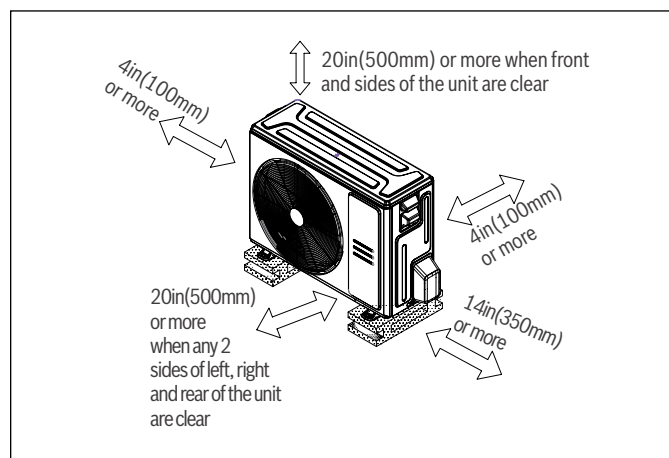
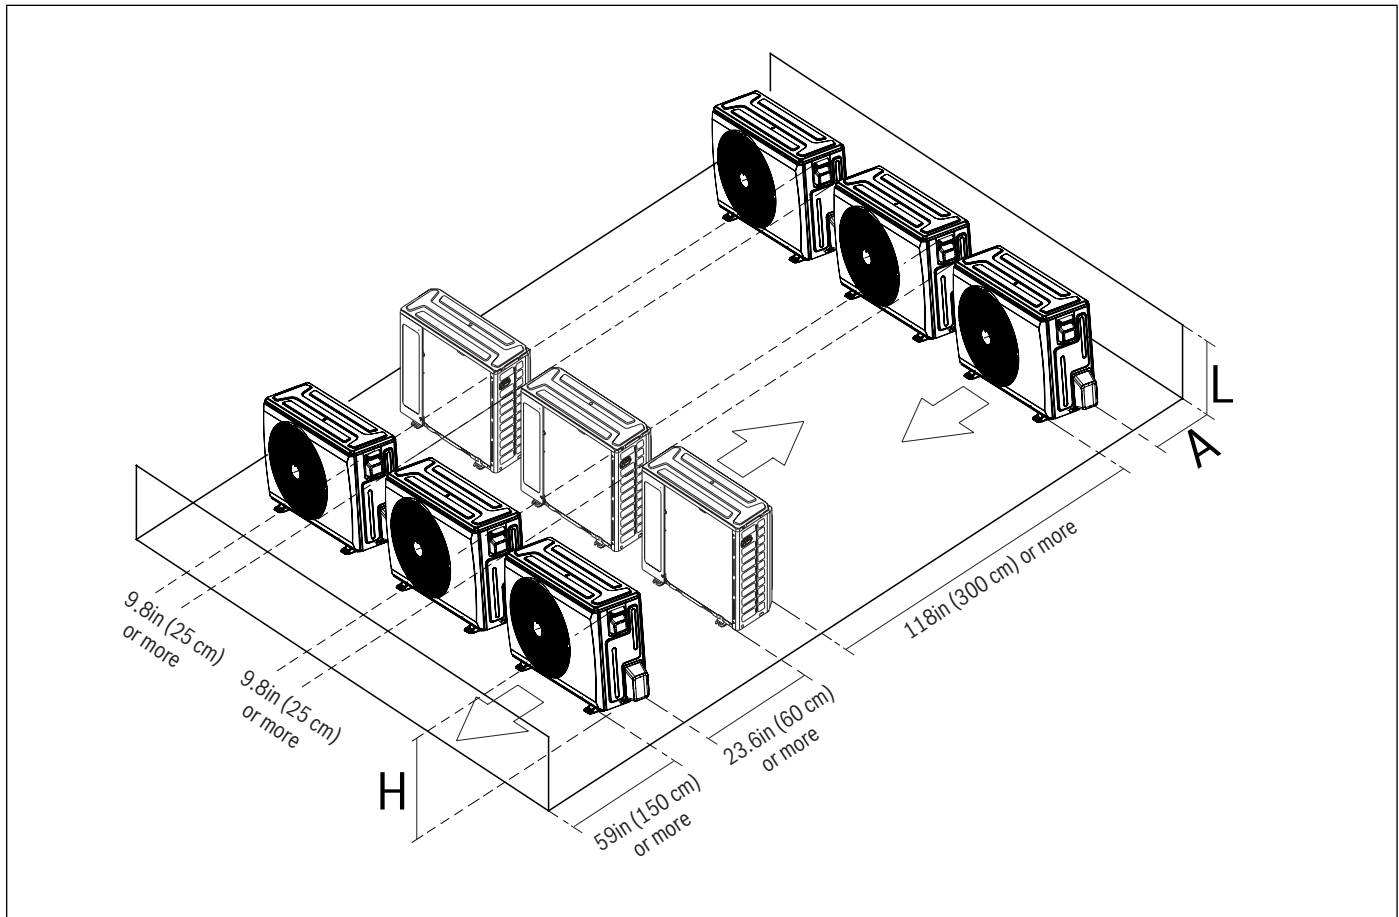

Figure 8
Figure 15
- Meets all spatial minimum requirements shown in Installation Space Requirements (Figure 8)
Make sure to meet minimum spatial requirement (Figure 8 & Figure 15) to ensure there is enough room for installation and maintenance.